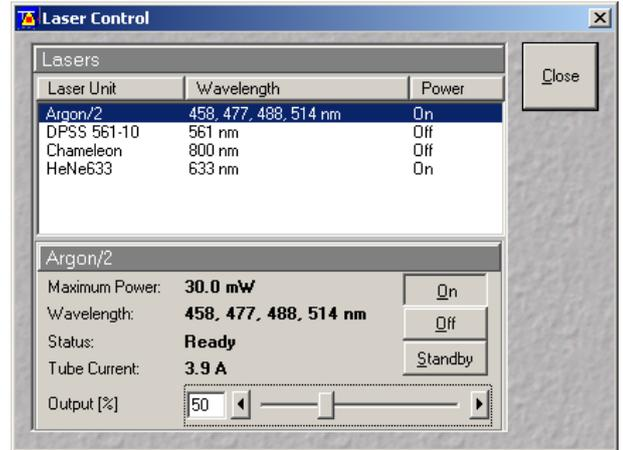

Fig. 4-8 Laser Control window
- This opens the **Laser Control** window (see Fig. 4-8), which consist of two panels. The upper **Lasers** panel lists all the available lasers, that can be selected within the display box. The selected laser can than be controlled then in the lower panel that bears the name of the selected channel.